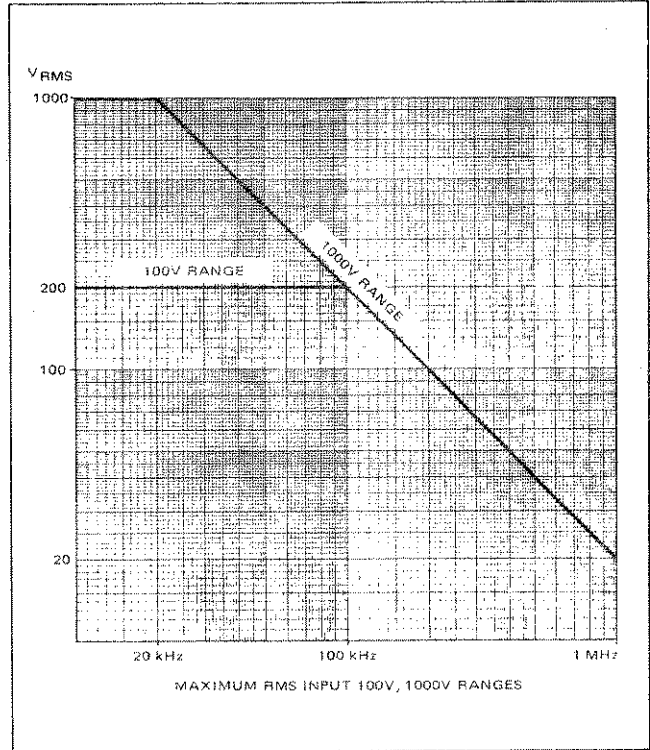

*Figure 2.6 - Basic Voltage Measurement Connections*
2.25 An ac or dc voltage measurement connection recommended to minimize the effects of noise requires a two-conductor shielded cable connected as shown in figure 2.6.